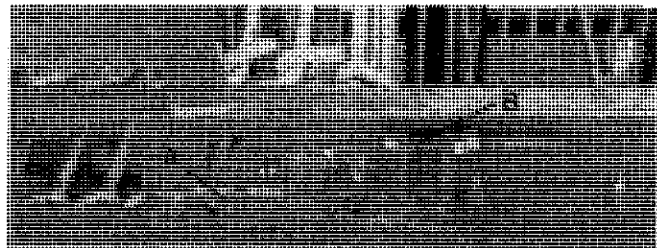

FIGURE 25 - TANK CONVEYOR ADJUSTMENT
To adjust draper chain in tank conveyor (see figure 25), loosen angle bolts (A). Using take-up bolts (B), tension both sides equally so draper chain just clears guide angles under tank. Reinstall and tighten bolts.